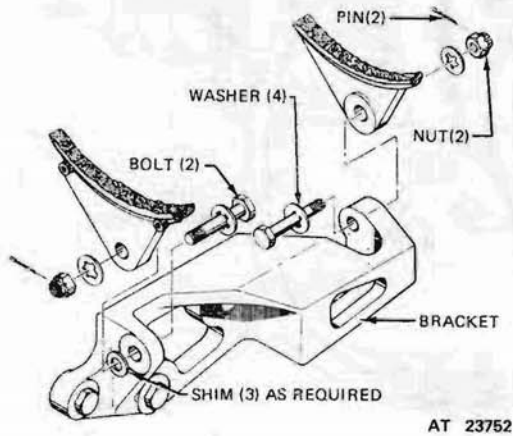

Figure 427.7. 60 Ampere alternator mounting installation.
(2) Remove screw and lockwasher securing the alternator bracket adjusting arm to the alternator. Push the alternator toward engine enough to allow removal of the two drive belts from alternator pulley. Remove belts.
(3) Remove the cotter pin, locknut, 2 washers and hex-head bolts securing both front and rear alternator mounting legs to the alternator mounting bracket. Lift out alternator (fig. 427.7).
(4) If alternator is being replaced, remove the self-locking nut and flat washer securing the pulley to the alternator shaft. Remove pulley from shaft with a suitable puller. Tape woodruff key to drive shaft.
(2) Position alternator on mounting bracket and insert bolt through each mounting leg to bracket. Shim as required at rear alternator mounting leg to establish clearance maximum of .005. Position lockwashers, locknuts and cotter pins. Do not tighten nuts. Position matched drive belts onto pulley. Connect the strap adjusting arm to alternator with screw and lockwasher. Do not tighten screw (fig. 427.7).